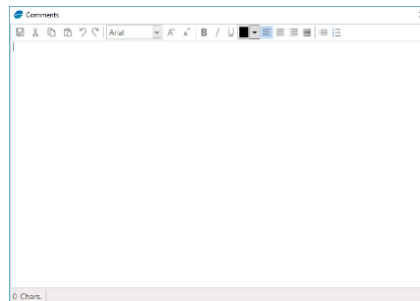

Figure 55: Comments Window
1. Select the **Add Report Comments** button  located in the toolbar. This will launch the **Comments** window (Figure 55).